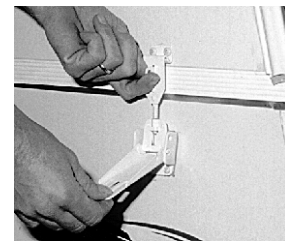

Fig. 7
2. Unfasten each roof latch. (Fig. 7)
**CAUTION: Never attempt to crank up the roof until all corner latches are unlocked and free. (Fig. 7) NEVER LIFT THE ROOF WITH CARGO IN PLACE.**
13. Attach the roof latches to the clips (Fig. 7). Due to air pockets, the roof may need to be pushed down with your hand the last 1-2".